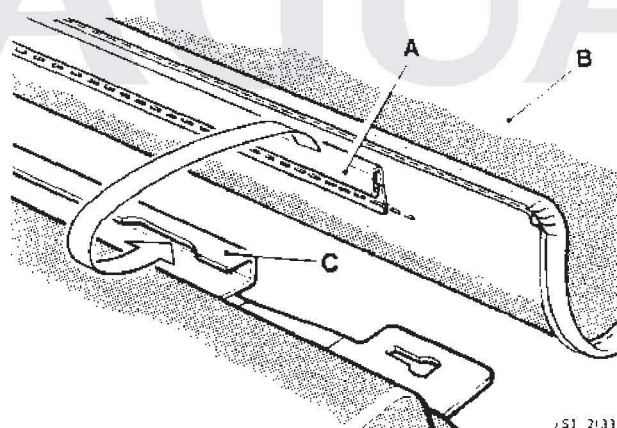

Fig. 1.
4. Lift the rear edge of the carpet; align and fully engage the plastic 'J' section strip on the carpet to the metal bracket on the front of the seat ECU cover. (See Fig. 1.)